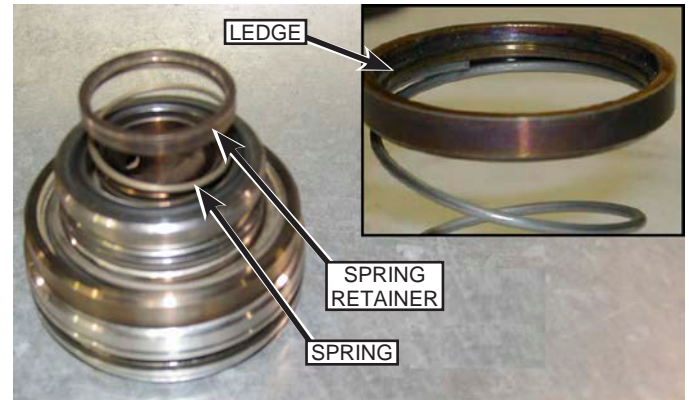

Fig. 97: Spring and Retainer Installation
4. Insert the suction valve spring and spring retainer into the valve body. Ensure the ledge the retaining ring sits on is positioned as shown in Fig. 97.